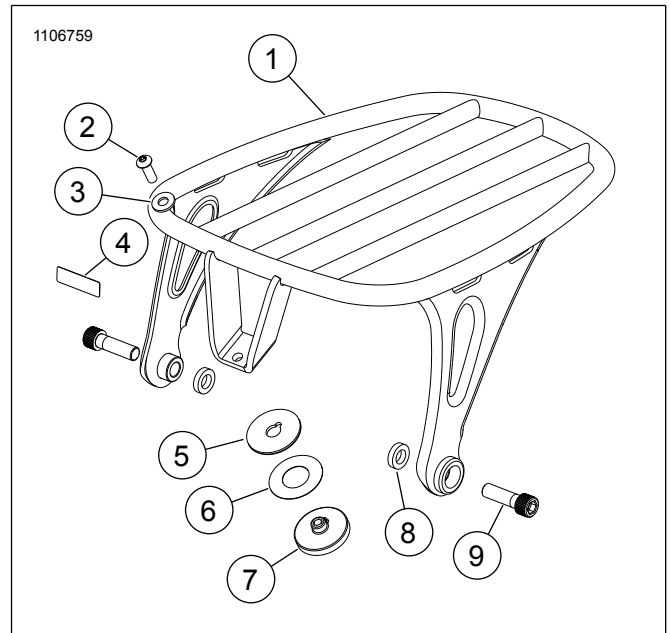
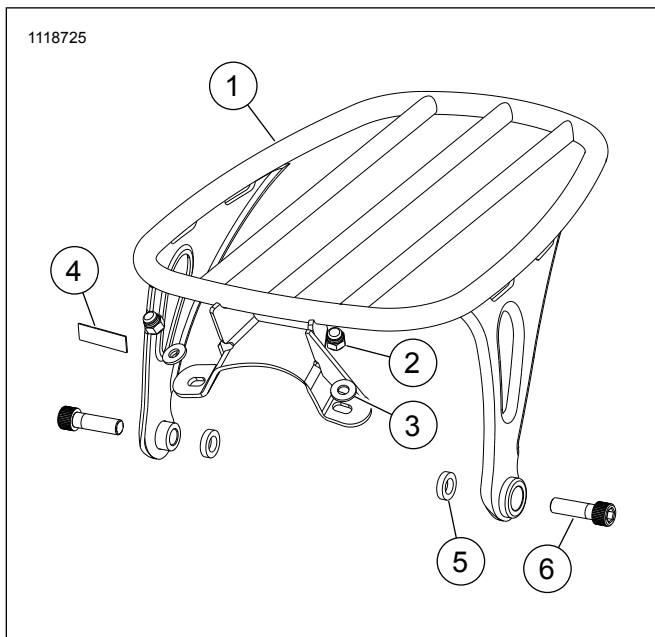

Figure 7. Kit 50300120
Figure 8. Kit 50300154/156
See Figure 7, Figure 8 and Refer to Table 1.
- g. See Figure 7. Install docking spacer (8) between fender and fender mount and secure it with socket head cap screw.
12. See Figure 7. Tighten screw (2).
- g. See Figure 8. Install docking spacer (5) between fender and fender mount and secure it with socket head cap screw.
4. Tighten nuts (2).